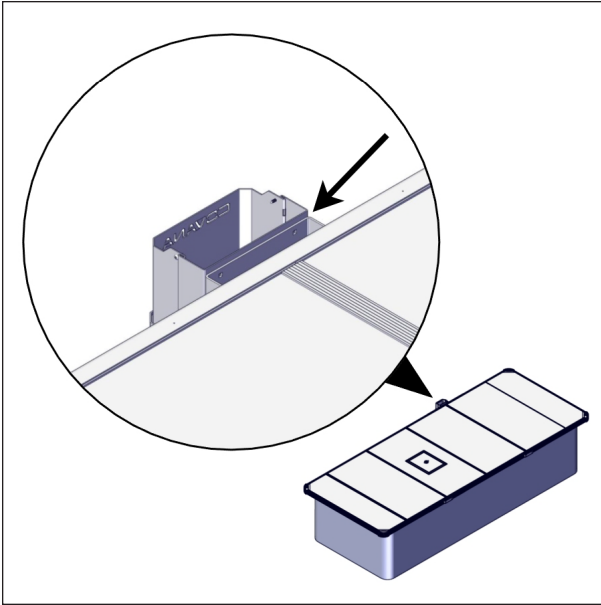

FIGURE 64: POST MOUNT BRACKET ALIGNMENT WITH THE SLEEVE
4. Gently install the sleeve on the ground so it is in contact at the top with the post mount bracket, see Figure 64.